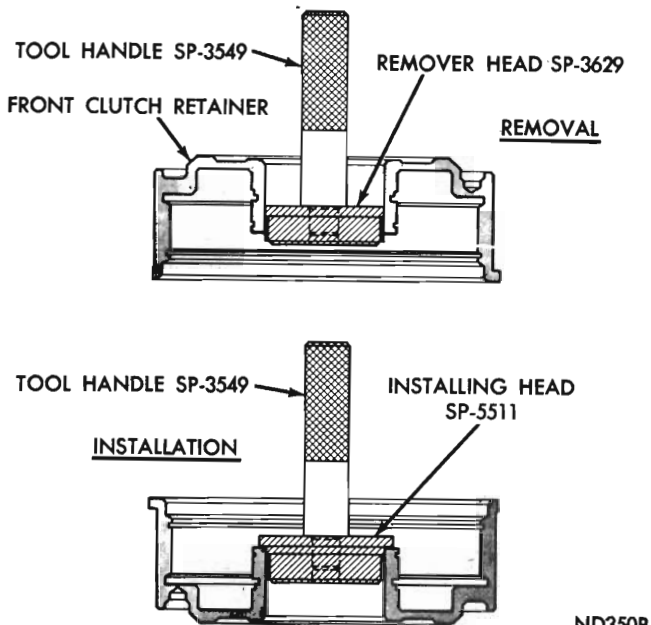

Fig. 76 - Replacing front clutch retainer bushing (A-727)
(1) Lay clutch retainer (open end down) on a clean smooth surface and place removing head Tool SP-3629 in the bushing. Install handle Tool SP-3549 in removing head (Fig. 76).
(2) Drive bushing straight down and out of clutch retainer bore. Be careful not to cock tool in the bore.
(3) Lay clutch retainer (open end up) on a clean smooth surface. Slide a new bushing on in-
(4) Install handle Tool SP-3549 in the installer (Fig. 76). Drive bushing into clutch retainer until tool bottoms.
(5) Thoroughly clean clutch retainer before assembly and installation.